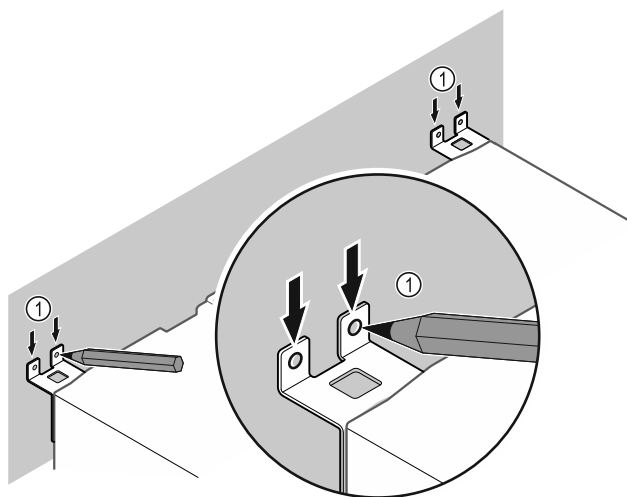

Fig. 52
- Make markings on the wall Fig. 52 (1).